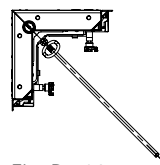

Fig. D5.09c
4. Tension crane slings. (Fig. D5.09c)